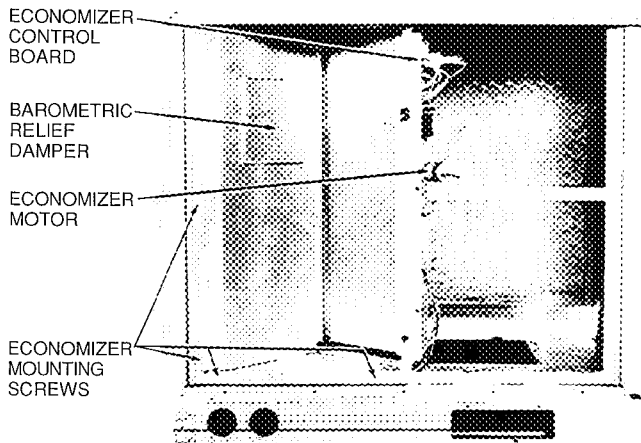

Fig. 21 – Horizontal Economizer Installation (90 Degree Rotation)
- b. Rotate economizer 90 degrees until economizer motor faces condenser section (see Fig. 21.) If necessary, disassemble economizer to replace filter.